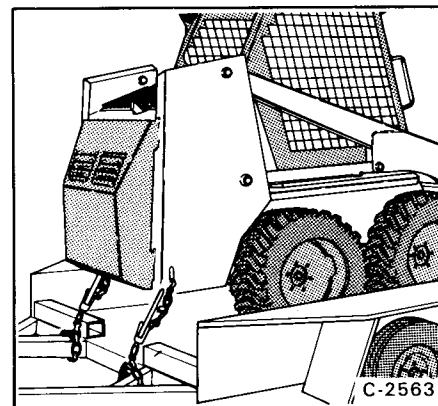

Fig. 33 Fastening Loader
5. Fasten chains, one in each upright cutout, to the loader and to the trailer (Fig. 33).